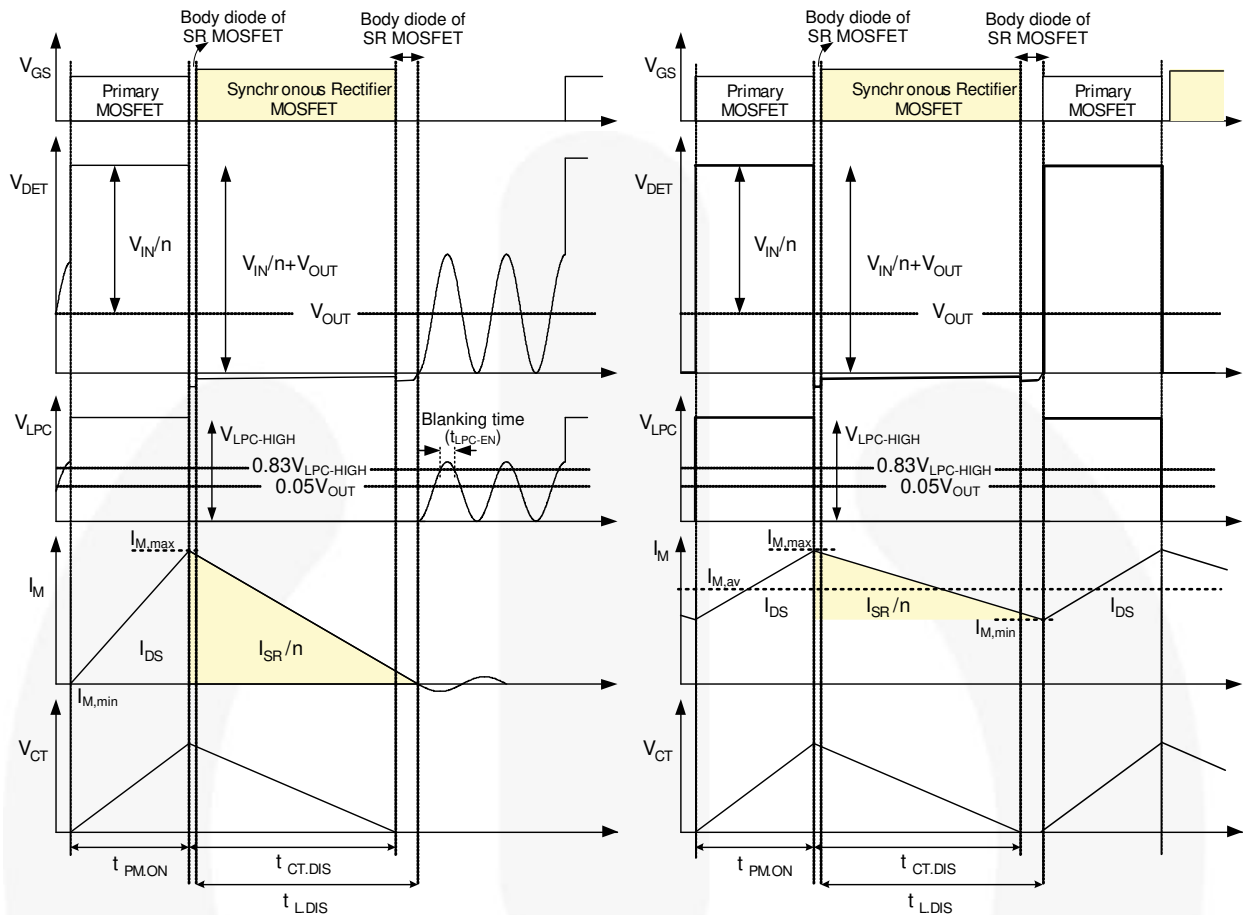
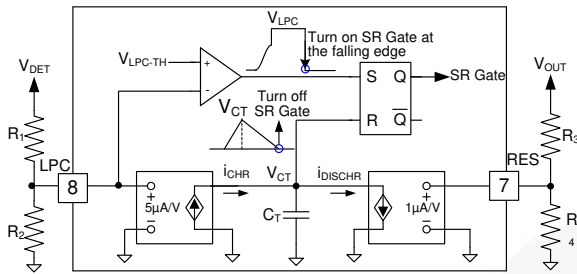

Figure 18. Typical Waveforms of Linear-Predict Timing Control in CCM and DCM/QR Flyback
Figure 19. Simplified Linear-Predict Block
The SR MOSFET turn-off timing is determined by linear-predict timing control and the operation principle is based on the volt-second balance theorem. The volt-second balance theorem states that the inductor average voltage is zero during a switching period in steady state, so the charge voltage and charge time product is equal to the discharge voltage and discharge time product. In flyback converters, the charge voltage on the magnetizing inductor is input voltage (V_{IN}), while the discharge voltage is nV_{OUT} , as the typical waveforms show in Figure 18. The following equation can be drawn:
FAN6204 uses the LPC and RES pins with two sets of voltage dividers to sense DET voltage (V_{DET}) and output voltage (V_{OUT}), respectively; so V_{IN}/n , $t_{PM,ON}$, and V_{OUT} can be obtained. As a result, $t_{L,DIS}$, which is the on-time of SR MOSFET, can be predicted by Equation (1). As shown in Figure 18, the SR MOSFET is turned on when the SR MOSFET body diode starts conducting and DET voltage drops to zero. The SR MOSFET is turned off by linear-predict timing control.
The linear-predict timing-control circuit generates a replica (V_{CT}) of magnetizing current of flyback transformer using internal timing capacitor (C_T), as shown in Figure 19. Using the internal capacitor voltage, the inductor discharge time ($t_{L,DIS}$) can be detected indirectly, as shown in Figure 18. When C_T is discharged to zero, the SR controller turns off the SR MOSFET.
Referring to Figure 18; when LPC voltage is higher than $V_{LPC.EN}$ over a blanking time ($t_{LPC.EN}$) and lower than $V_{LPC.TH.HIGH}$ ($0.05 V_{OUT}$), then SR MOSFET can be triggered. Therefore, $V_{LPC.EN}$ must be larger than $V_{LPC.TH.HIGH}$ or the SR MOSFET cannot be turned on. When designing the voltage divider of LPC, R_1 and R_2 should be considered as:
The typical waveforms of CCM operation in steady state are shown as Figure 18. When the primary-side MOSFET is turned on, the energy is stored in L_m . During the on-time of the primary-side MOSFET ($t_{PM.ON}$), the magnetizing current (I_M) increases linearly from $I_{M,min}$ to $I_{M,max}$. Meanwhile, internal timing capacitor (C_T) is charged by current source ($i_{CHR} - i_{DISCHR}$) proportional to V_{IN} , so V_{CT} also increases linearly.
In DCM / QR operation, when primary-side MOSFET is turned off, the energy stored in L_m is fully released to the output at the turn-off timing of primary-side MOSFET. Therefore, the DET voltage continues resonating until the primary-side MOSFET is turned on, as depicted in Figure 18. While DET voltage is resonating, DET voltage and LPC voltage drop to zero by resonance, which can trigger the turn-on of the SR MOSFET. To prevent fault triggering of the SR MOSFET in DCM operation, blanking time is introduced to LPC voltage. The SR MOSFET is not turned on even when LPC voltage drops below $0.05 V_{OUT}$ unless LPC voltage stays above $0.83 V_{LPC.HIGH}$ longer than the blanking time ($t_{LPC.EN}$). The turn-on timing of the SR MOSFET is inhibited by gate inhibit time ($t_{INHIBIT}$), once the SR MOSFET turns off, to prevent fault triggering.